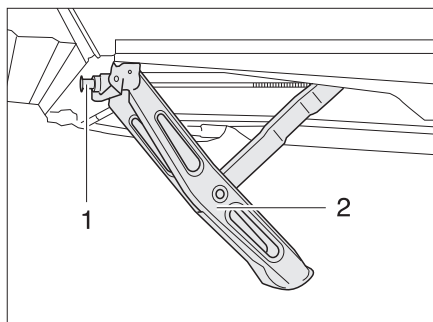

Fig. 16 Corner steady cranked down
- Place the hand crank provided as standard on the hexagonal nut (Bild 16,1) of the corner steady (Bild 16,2).